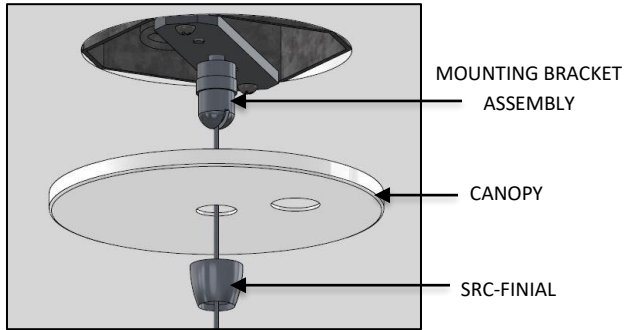

FIG. 26- CANOPY DISASSEMBLY
14. Once the MOBI BODY is secured to the AIRCRAFT CABLE (4) at the GRIPLOCK (4) Unthread the SRC-FINIAL from the MOUNTING BRACKET ASSEMBLY and lower the CANOPY as shown below in FIG. 26.